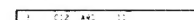

Fig. 15.
- 4 Using \rightarrow or \leftarrow , select the programme position you want to exchange with another and press OK. The colour of the selected position changes. (See Fig. 15.)